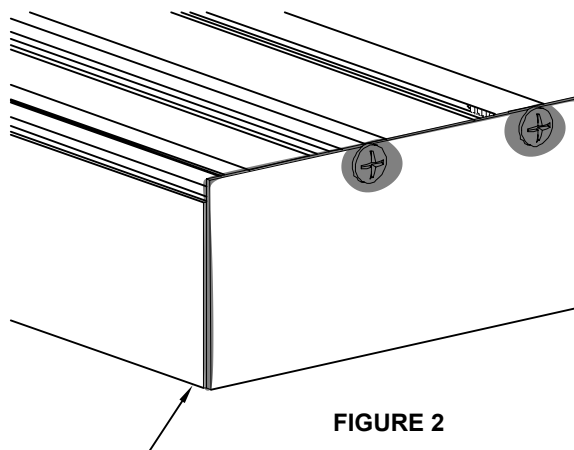

FIGURE 2
- STEP D:** Apply end dams to receptor with two 028-856 (#12 x 1-1/8" PHTF) supplied screws, and seal over heads. Tool sealant along outside edges and inside corners between end dam and receptor. (Figure 2)